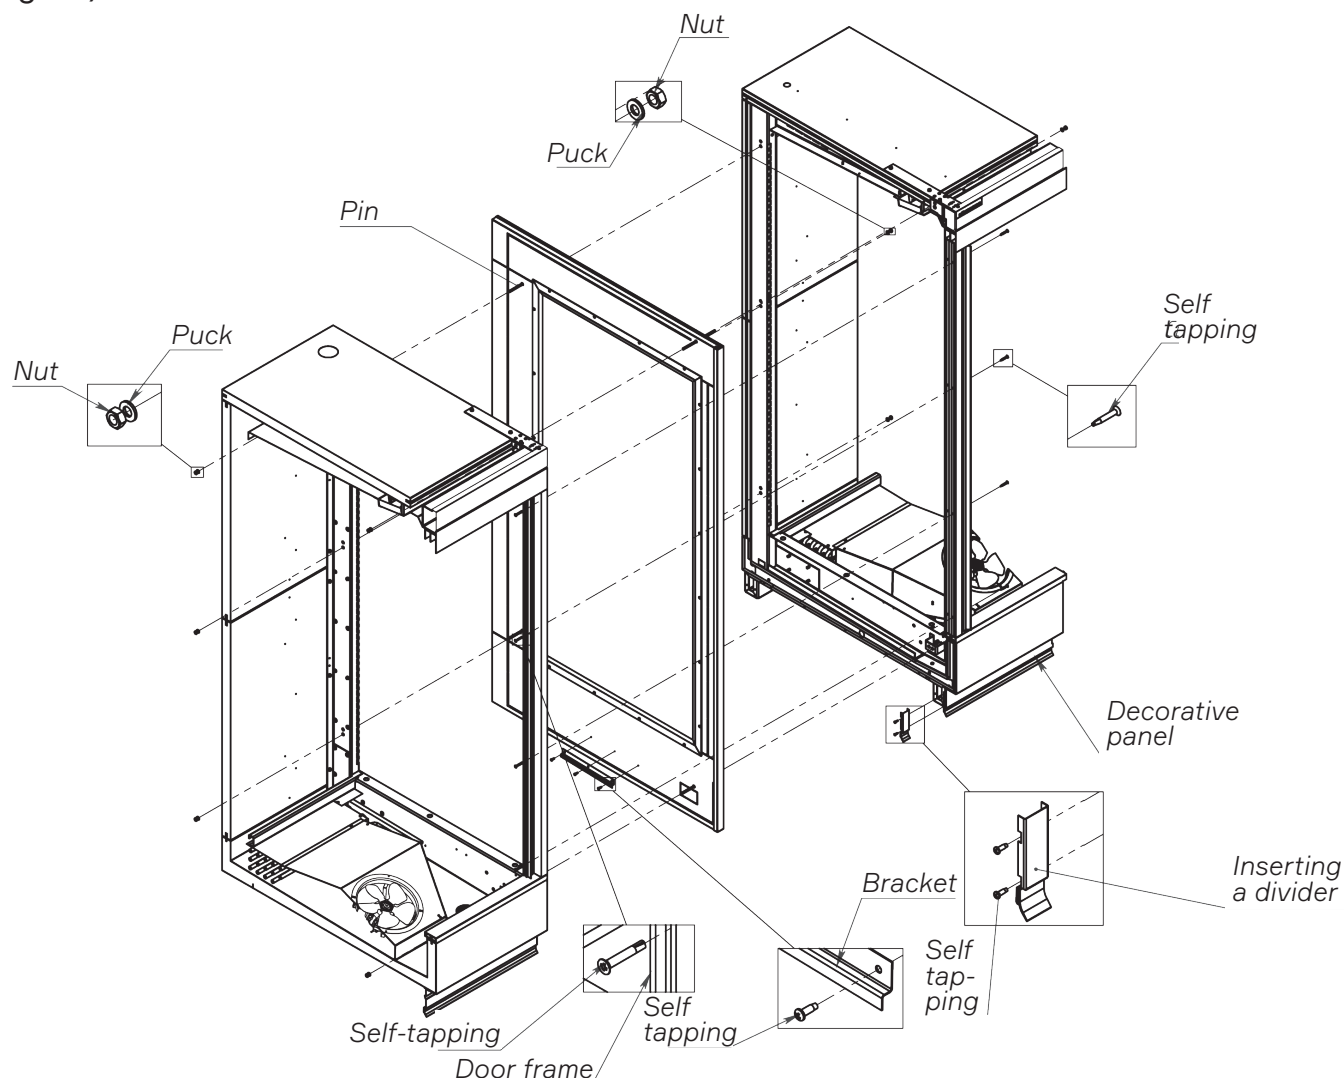

Fig. 16. Installing the divider
(Fig. 16).
6. Take the assembly kit and connect the cabinets according to the holes on the divider (Fig. 16).